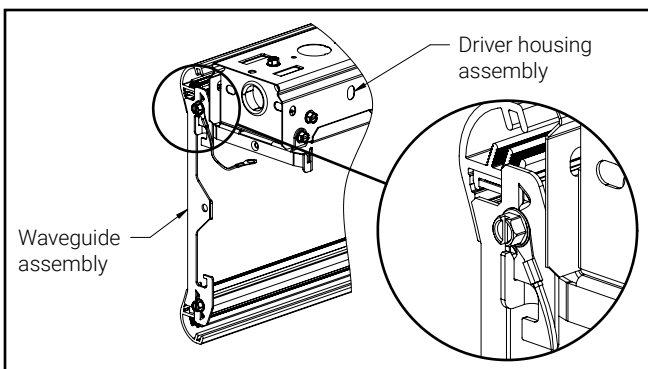

Figure 3.2
- C. Place waveguide assembly bracket inside the groove in channel hinge bracket. (Figure 3.2)